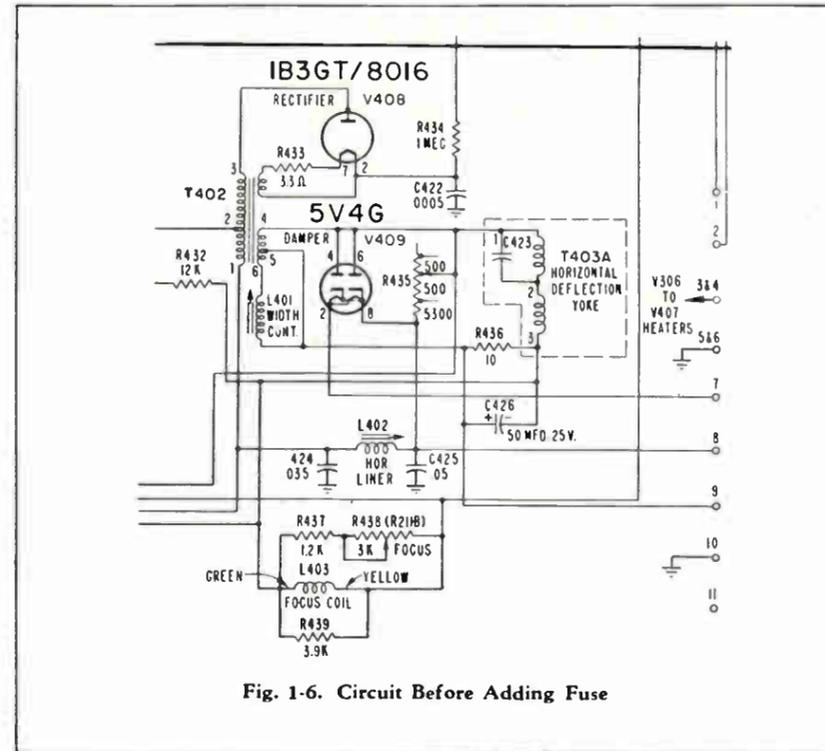

Fig. 1-6. Circuit Before Adding Fuse
In early production models, 6BG6G horizontal output tube (407) failure sometimes results in damage to circuit components (such as horizontal output transformer T402). This original circuit is shown in figure 1-6. The new circuit (see Figure 1-20) results in improved horizontal centering as well as fuse protection.